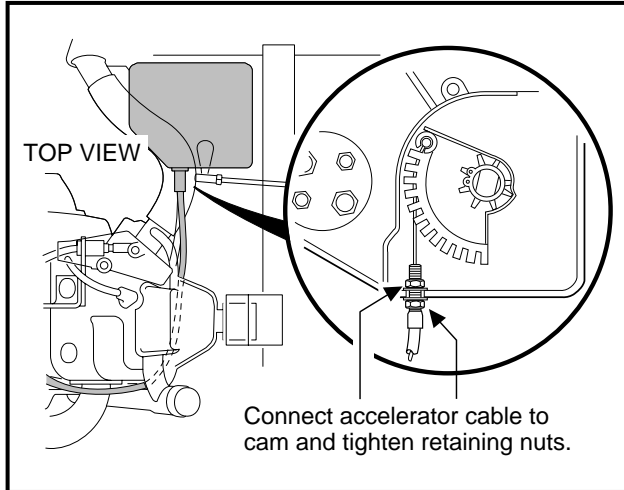

Figure 16-98 Connect Cable to Cam
28. Connect accelerator cable to actuator cam in the electrical box. Position the accelerator cable in mounting slot in the wall of the electrical box and tighten mounting nuts to 18 in-lb (2.0 N·m) **(Figure 16-98, Page 16-40)**. Install electrical box cover and tighten mounting screw.